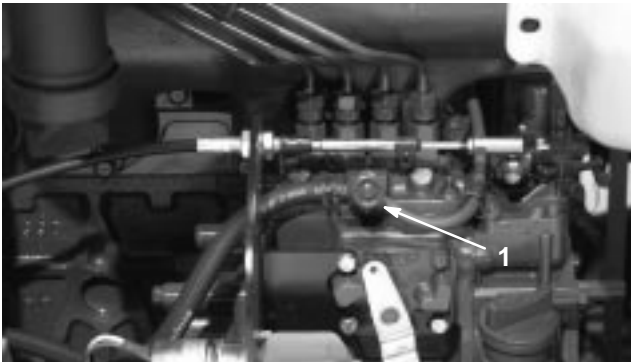

Figure 18
3. Open the air bleed screw on the fuel injection pump (Fig. 18).